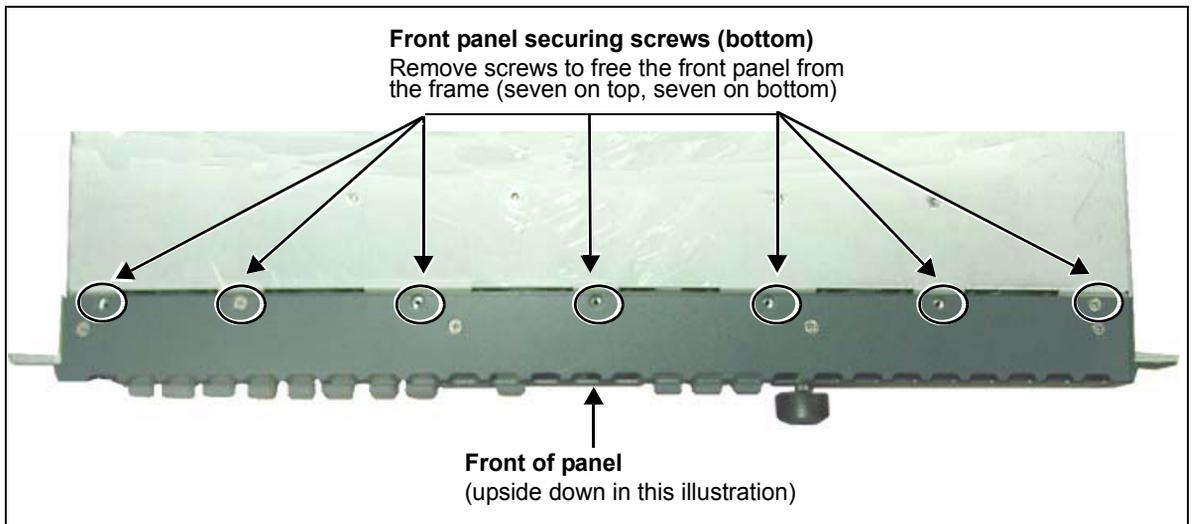

Figure C-36. Freeing the Front Panel from the Frame
2. Remove the screws along the top and bottom of the front panel that hold it to the frame. (See Figure C-36.)